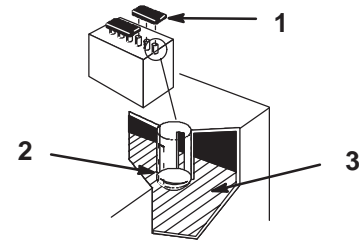

Figure 63
1. Open covers to see into the cells. The electrolyte must be up to the lower part of the tube (Fig. 63). Do not allow the electrolyte to get below the plates. (Fig. 63).
2. Lift off the filler caps (Fig. 63).
3. Slowly pour distilled water into each battery cell until the level is up to the lower part of the tube (Fig. 63).